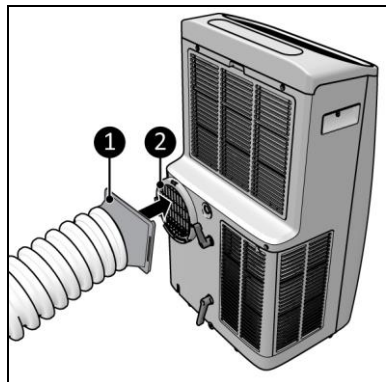

Figure 12
6. Connect the hose connector (Figure 12, pos. 1) to the hot air outlet of the device (Figure 12, pos. 2)